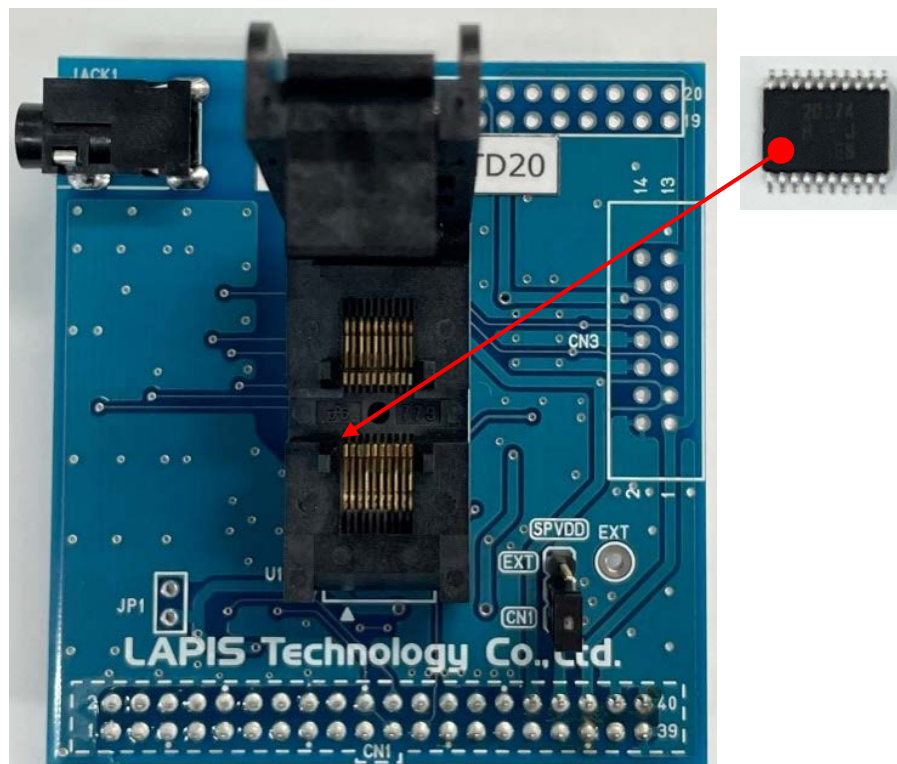

Figure 1 Outline Diagram
- Turn off the power when loading Speech Synthesis LSIs into the RB-S22Q274TD20. Pin 1 is the position of the board silk ▲ at the bottom left with respect to the socket opening. The Figure 1 shows the setting directions of Speech Synthesis LSIs.